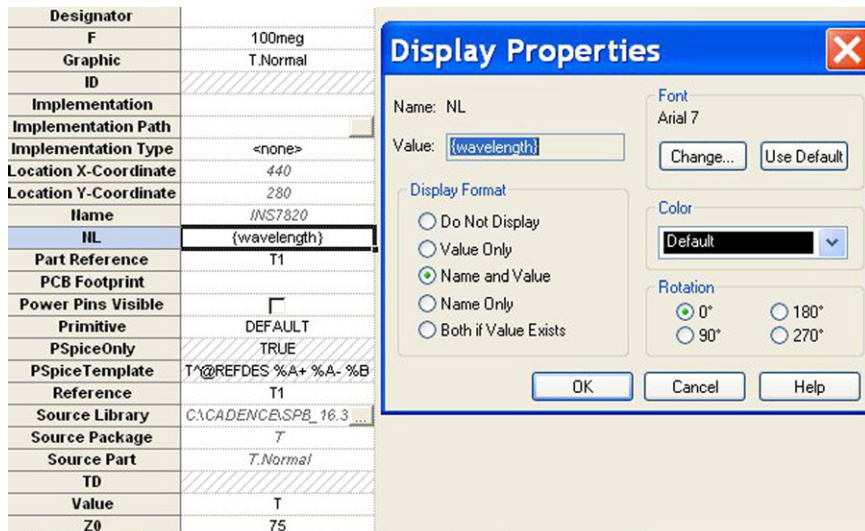

FIGURE 17.21
5. It is a good idea to display new properties. In the **Property Editor**, highlight the wavelength property and select **Display** (or **rmb > Display**) and select **Name and Value** as shown in Figure 17.21. Do not close the Property Editor.